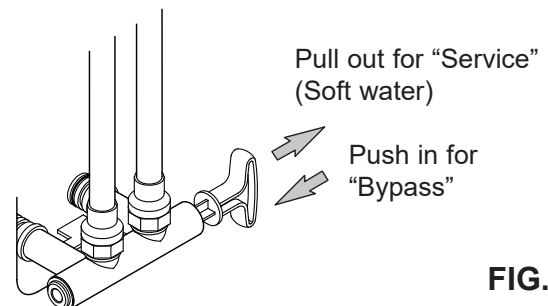
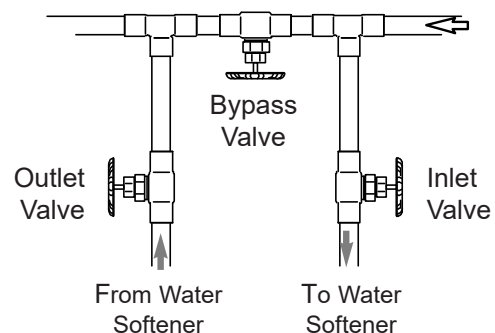

FIG. 7
FIG. 8
Always install either a single bypass valve (provided), as shown in Figure 7, or, if desired, parts for a 3 valve bypass system (not included) can be purchased and assembled, as shown in Figure 8. Bypass valves allow you to turn off the water to the softener for maintenance if needed, but still have water in house pipes.
2. Place the bypass valve (single or 3 valve) into the “bypass” position. See Figures 7 & 8 on Page 7.